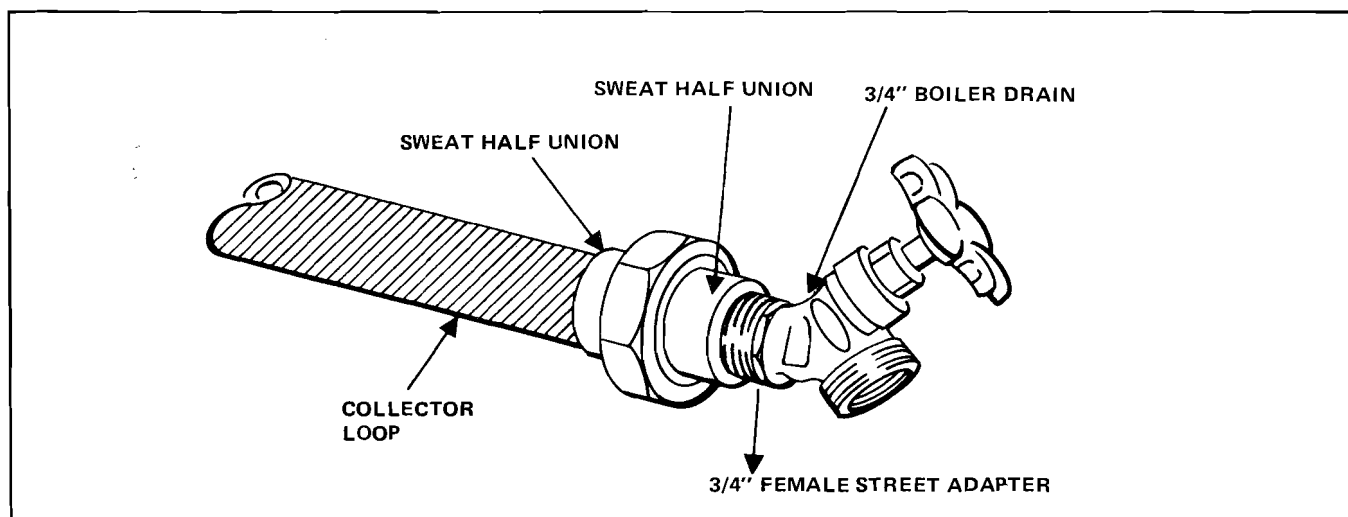

FIGURE 8 – MATERIAL MAKEUP FOR FLUSH PROCEDURE
- (1) Uncouple the two unions marked COLLECTOR FLUID INLET and COLLECTOR FLUID OUTLET.
- (2) Attach halves of 3/4" union with adapters & Boiler Drains to collector lines.
- (3) Attach hoses to Boiler Drains on these lines (see figure 8).
- (4) Connect one hose to suitable spigot (laundry sink or outside spigot); other hose to suitable drain.
- (5) Flush system (warm water, if possible) for 10 minutes with Boiler Drain Valves open.